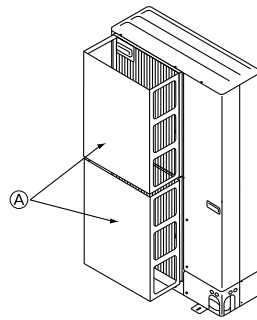

Fig. 2-4
- ② Install an optional air guide if the unit is installed in a location where strong winds from a typhoon, etc. may directly enter the air outlet. (Fig. 2-4)